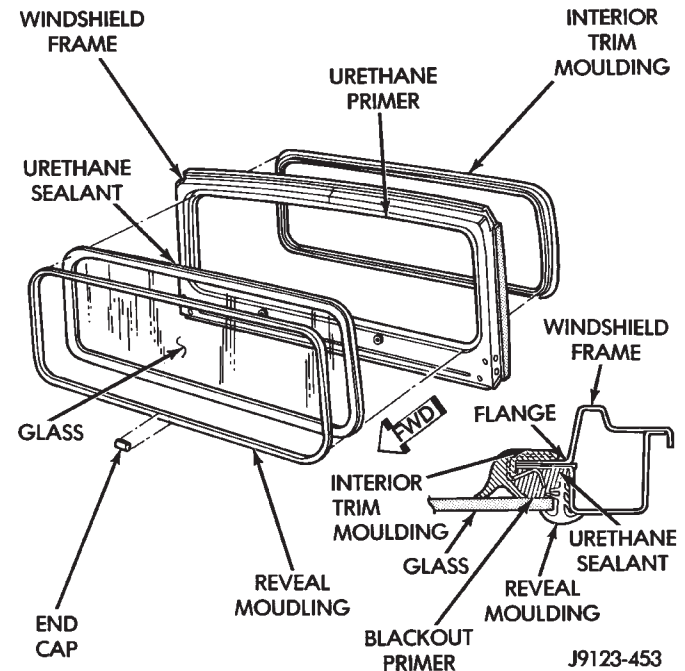
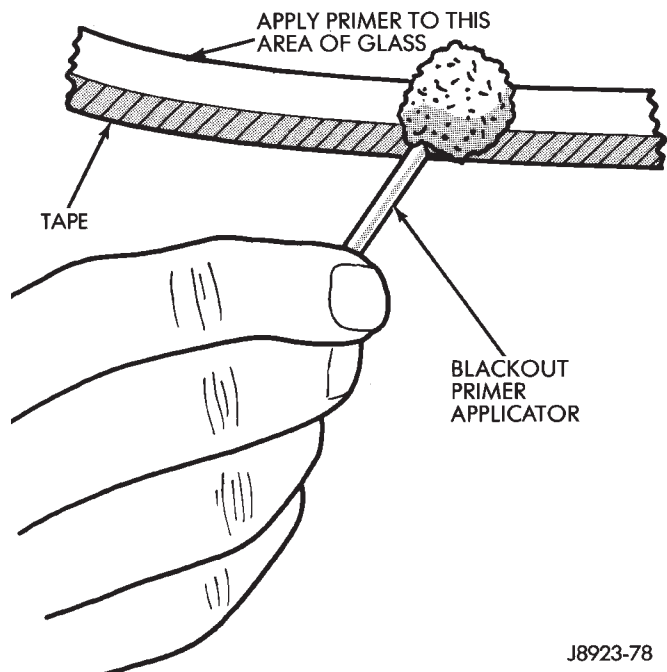

Fig. 5 Windshield Components
Fig. 6 Blackout Primer Application
The one-piece windshield glass (Fig. 5) is comprised of two laminated sheets of glass. The glass is bonded to the windshield frame with urethane adhesive (Fig. 5). This method of windshield glass installation complies with the applicable Federal Motor Vehicle Safety Standards (FMVSS).
(1) Cover body surface areas with protective covering to avoid paint damage and extra clean-up time.
(2) Remove the windshield wiper arms, the reveal moulding (Fig. 5) and the rearview mirror. If necessary, refer to the applicable removal procedures.
(3) Make a preliminary cut around the **perimeter** of the windshield glass along the glass edge with a razor knife.
(4) Cut the adhesive bead with a hot knife and a straight or hooked knife blade.
(5) Start the hot knife blade between the glass and the urethane. Next, cut the adhesive as close to the glass edge as possible. Allow as much adhesive to remain on the frame flange as possible. **For best cutting results, clean the knife blade frequently with steel wool while the blade is hot.**
(6) Remove the windshield glass from the frame (Fig. 5).
(7) After the hot knife blade has cooled, clean the hot knife blade with solvent and a cloth. Sharpen the blade with a fine-tooth file.
(8) If the extended windshield glass installation method will be used, remove and discard the interior trim moulding (Fig. 5).
(1) Inspect the windshield frame pinchweld flanges (Fig. 5) Prime any bare spots with urethane primer. Allow a minimum of 18 minutes for dry time.
(2) Inspect the urethane bead for high spots. Level the bead by shaving off high spots with a razor knife. This is necessary for a flush-fit of the windshield glass.
(3) Inspect the windshield moulding. Replace the moulding if it has broken, distorted or ineffective retainers.
(4) Clean the outer edge of the windshield glass with naphtha or a similar product.
(5) Prime the outer perimeter of the interior side of the glass 16 mm (5/8 inch) from the edge. Use a wipe-off type urethane primer and wipe the glass dry after primer application.
(6) Place the windshield glass in the frame on the pinchweld flanges and inspect for gaps in the urethane adhesive. Gaps in excess of 3 mm (1/8 inch) must be filled with additional urethane adhesive.
(7) Adjust windshield glass position until it is aligned with the flanges and the adhesive. Next, make alignment marks on glass and body with a grease pencil.
(8) Remove the windshield glass and position it on a flat surface.
(9) If the replacement windshield glass does not have blackout primer:
- attach a 25-mm (1-in) wide masking tape band around the interior side of the glass 16 mm (5/8 in) from the edge of the glass (Fig. 6);
- thoroughly mix and apply blackout primer to the 16 mm (5/8 in) surface area around the interior side of the glass (Fig. 6); then
(6) Install and inspect the fit of the windshield glass on the pinchweld flanges according to the following instructions:
(7) If the pinchweld flanges require repair, remove the windshield glass and straighten, align, or repair the flange(s) as necessary.
(8) Position the windshield on the flanges and inspect the windshield fit again. If the fit is acceptable, mark windshield final position on the glass and the frame. The marks (or masking tape) will be used for installation alignment reference.